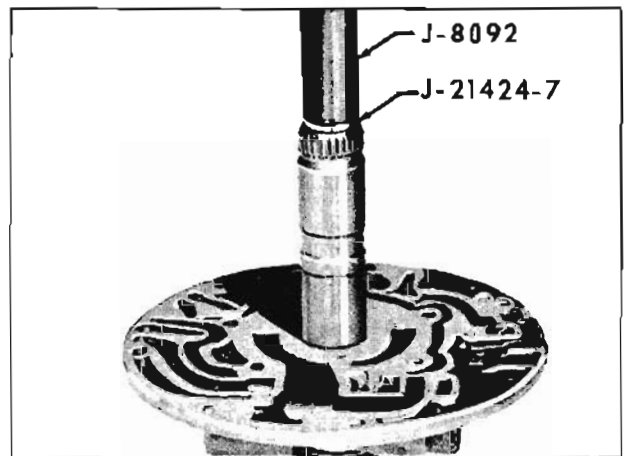

Fig. 6-338 Installing Stator Shaft Bushing
- Install stator shaft bushing as follows: Position bushing into the front end of stator shaft, using Installer J-21424-7 and Drive Handle J-8092, tap bushing into shaft until tool is flush with top of shaft. (Fig. 6-338)